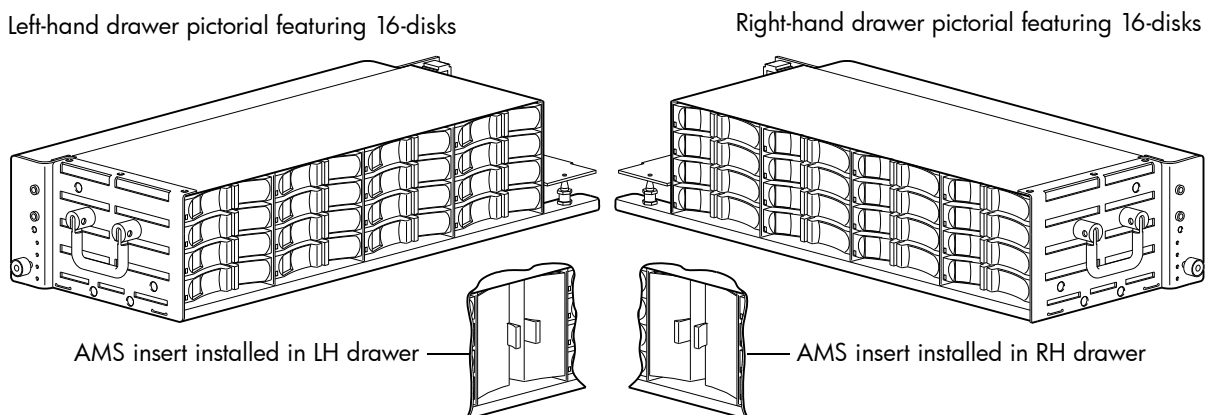

Figure 61 2U48 enclosure: sample drawer population
Figure 61 below shows sample drawer population of the two different drawers used in the 2U48 enclosures. The left-hand (LH) drawer sub-assembly is used for Drawers 0 and 1, and the right-hand (RH) drawer sub-assembly is used for Drawer 2.